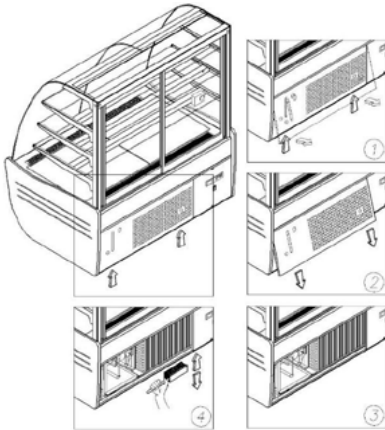

Fig. 7
- remove perforated plate or grille covering the refrigerating unit (Fig. 7)